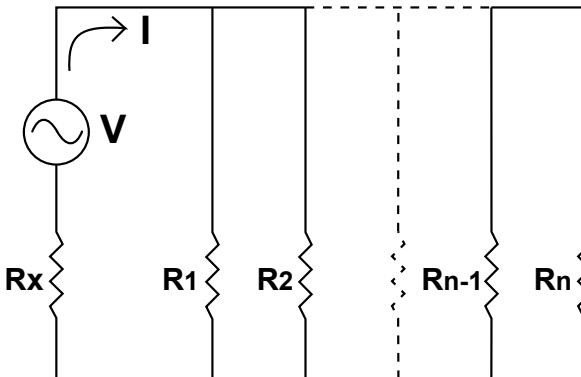
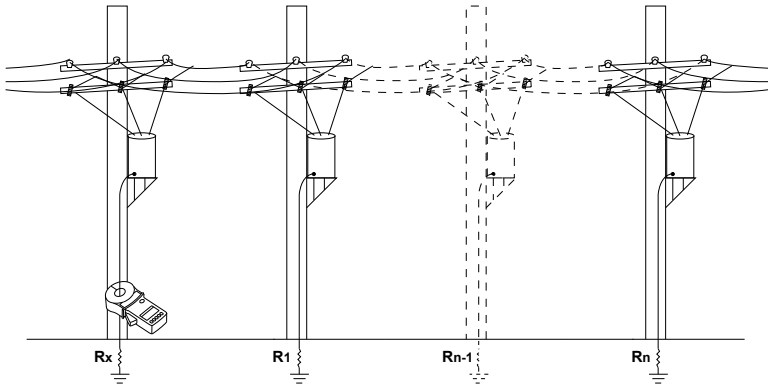

Figure 3-1
Figure 3-2
Typically, a grounded distribution system can be simulated by the basic circuit shown in Figure 3-1 or an equivalent to the diagram shown in Figure 3-2. If voltage (V) is applied to any measured grounding electrode Rx through a special transformer; current (I) flows through the circuit, thereby establishing the following equation: